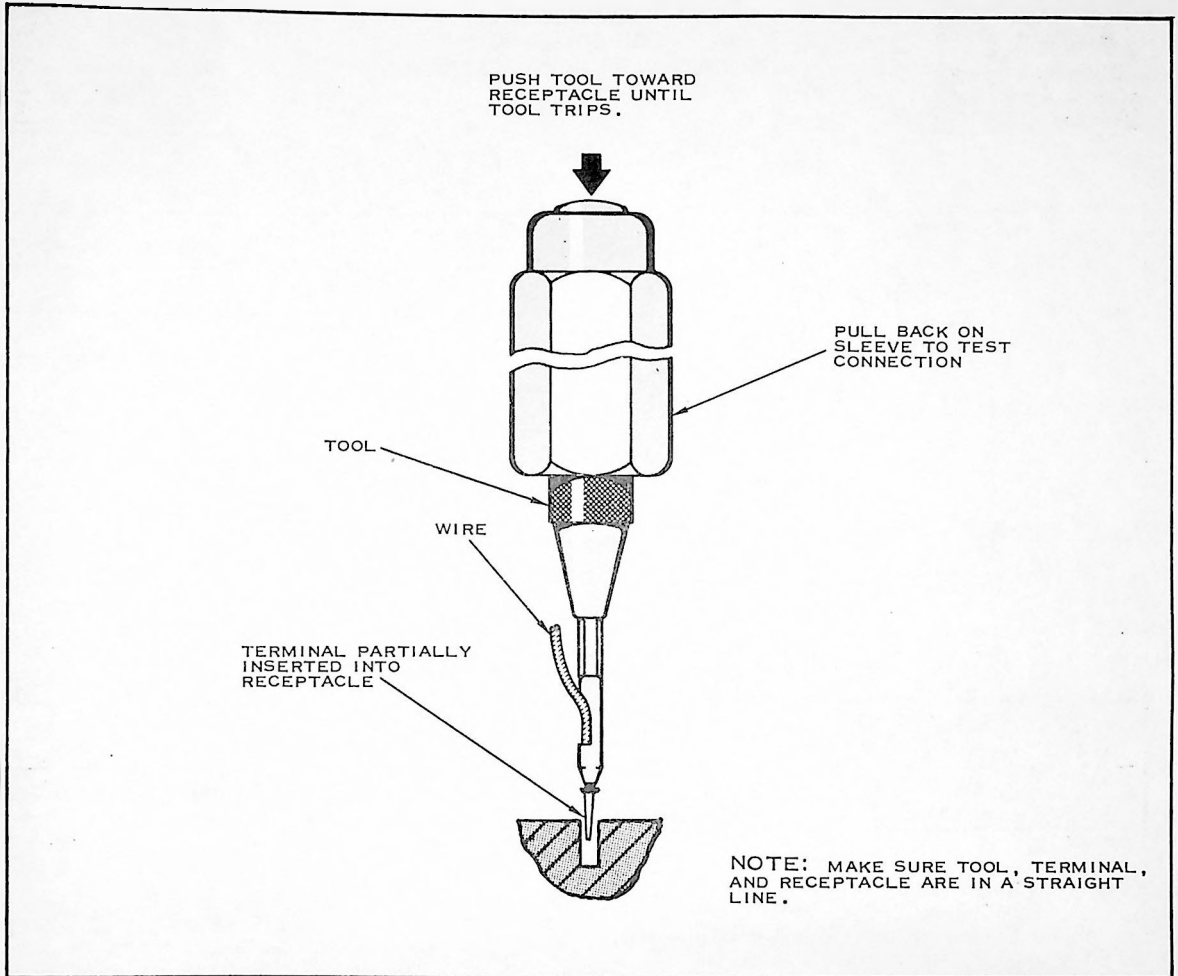

FIGURE 3
5. With the Terminal in the Tip, insert the Terminal into the Receptacle. See Figure 3.